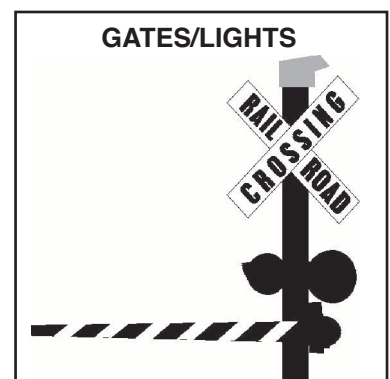

Figure 10.8
**Flashing Red Light Signals.** At many highway-rail grade crossings, the crossbuck sign has flashing red lights and bells. When the lights begin to flash, stop! A train is approaching. You are required to yield the right of way to the train. If there is more than one track, make sure all tracks are clear before crossing. (See Figure 10.8.)
**Gates.** Many railroad-highway crossings have gates with flashing red lights and bells. Stop when the lights begin to flash and before the gate lowers across the road lane. Remain stopped until the gates go up and the lights have stopped flashing. Proceed when it is safe. If the gate stays down after the train passes, do not drive around the gate. Instead, call your dispatcher. (See Figure 10.8.)